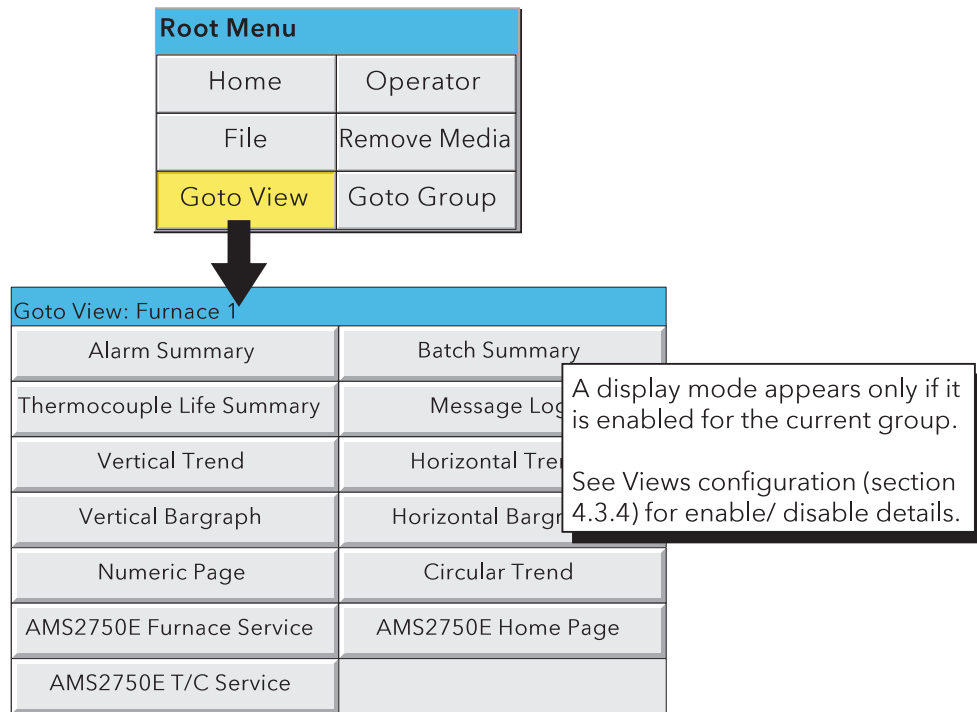

Figure 3.2.1a Root menu with Goto View sub menu
- Go to View Allows the user to select the display mode for the current group, as shown in figure 3.2.1a. Display modes not enabled for this group in Config/Views configuration page (section 4.3.4) do not appear. As an alternative, display modes can be scrolled-through using the up and down arrow navigation keys. Goto View also offers an alternative means of entry to the various Summary pages described in section 3.1.4, and to the current group's Message Log pages.